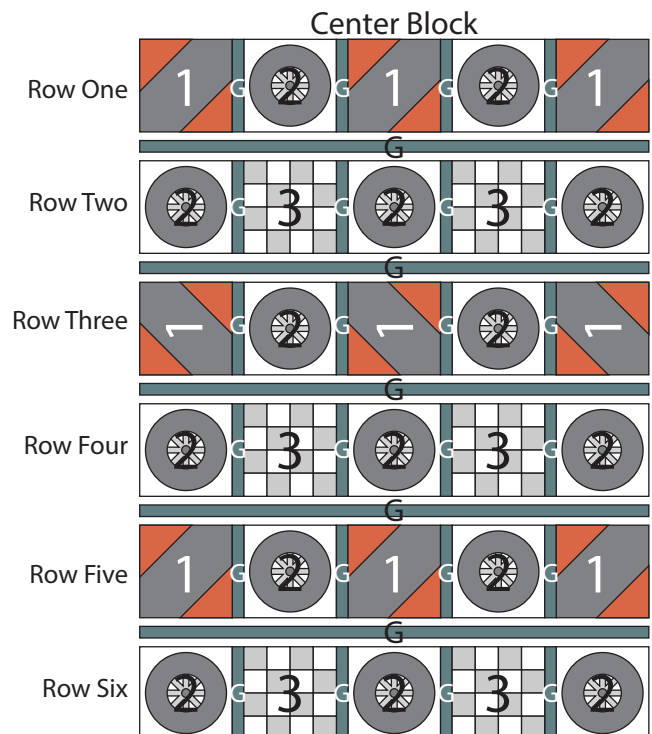

Fig. 10
12. Sew together (1) Block One square, (1) 1 1/2" x 8 1/2" Fabric G strip, (1) Block Two square, (1) 1 1/2" x 8 1/2" Fabric G strip, (1) Block One square, (1) 1 1/2" x 8 1/2" Fabric G strip, (1) Block Two square, (1) 1 1/2" x 8 1/2" Fabric G strip and (1) Block One square, in that order from left to right, to make Row One (Fig. 10). Repeat to make Row Three and Row Five. Pay attention to the Block One orientations.
13. Sew together (1) Block Two square, (1) 1 1/2" x 8 1/2" Fabric G strip, (1) Block Three square, (1) 1 1/2" x 8 1/2" Fabric G strip, (1) Block Two square, (1) 1 1/2" x 8 1/2" Fabric G strip, (1) Block Three square, (1) 1 1/2" x 8 1/2" Fabric G strip and (1) Block Two square, in that order from left to right, to make Row Two (Fig. 10). Repeat to make Row Four and Row Six.
14. Sew together the (6) pieced Rows in numerical order and (5) 1 1/2" x 44 1/2" Fabric G strips, lengthwise and alternating them from top to bottom, to make the 44 1/2" x 53 1/2" Center Block (Fig. 10).